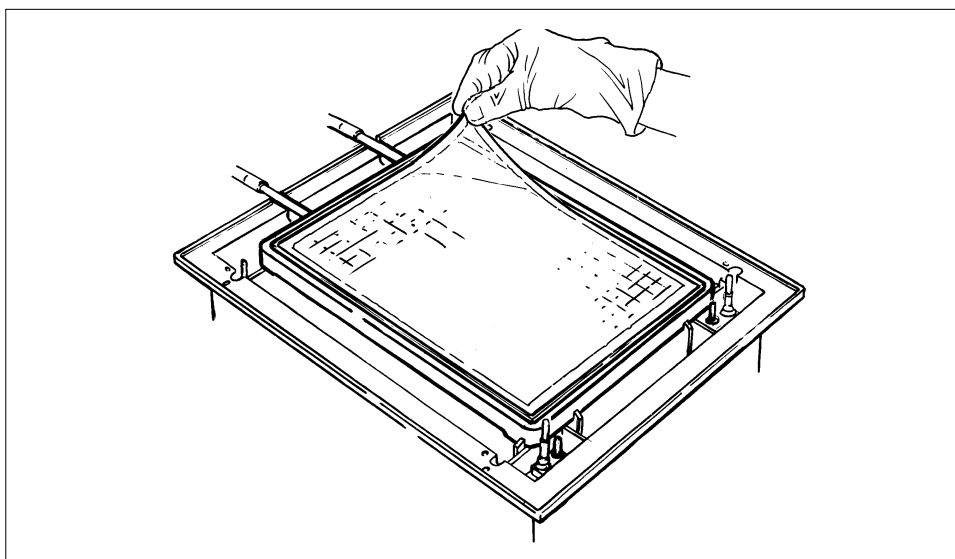

Fig. 25.
- Place the gel on the cooling plate. Avoid getting bubbles trapped between the gel and the cooling plate (Fig. 25).